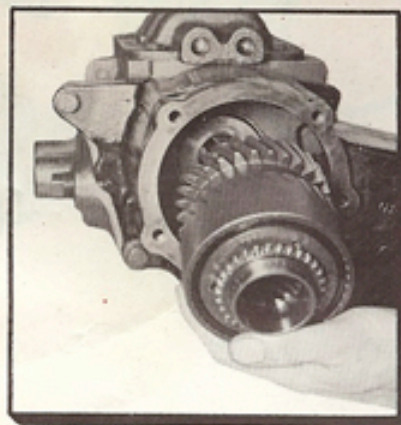

Fig. 2 — PLANETARY UNIT
4. Slide the planetary unit on to the transmission output shaft (Fig. 2).